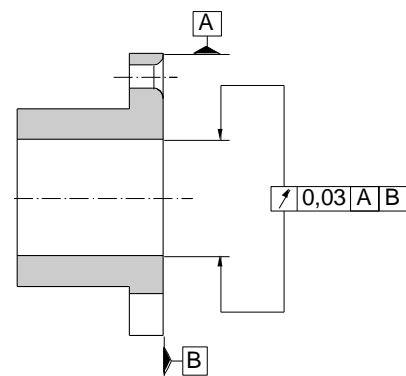

Fig. 2
- ❑ The recommended bore tolerances are to be produced using the position and tolerance width as references; at the same time, please keep to the shaft run-out and axial run-out tolerances of 0,03 mm (see Fig. 2).